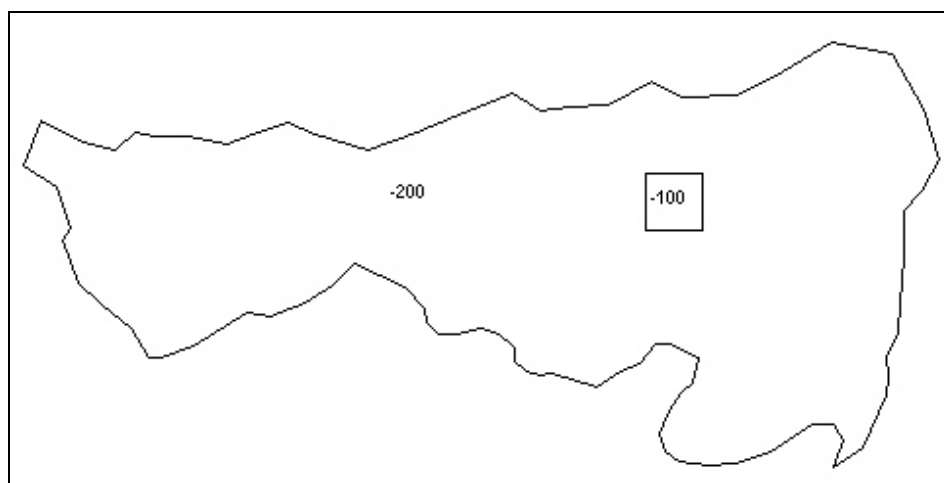

Figure 7-1 Recharge Zones Representing Aquifer Recharge (-200) and Landfill Leakage (-100).
First we will set up the recharge zones. The recharge polygons are shown in Figure 7-1. We will define a parameter for both the small polygon defining the landfill and the larger polygon encompassing the rest of the site. The key values associated with the two zones are shown on the polygons in the figure. The -200 zone represents recharge to the aquifer from rainfall. The -100 zone represents leakage from the landfill to the aquifer.
4. Double click on each of the polygons show in Figure 7-1 and assign the appropriate key value to the *Recharge rate* input field.